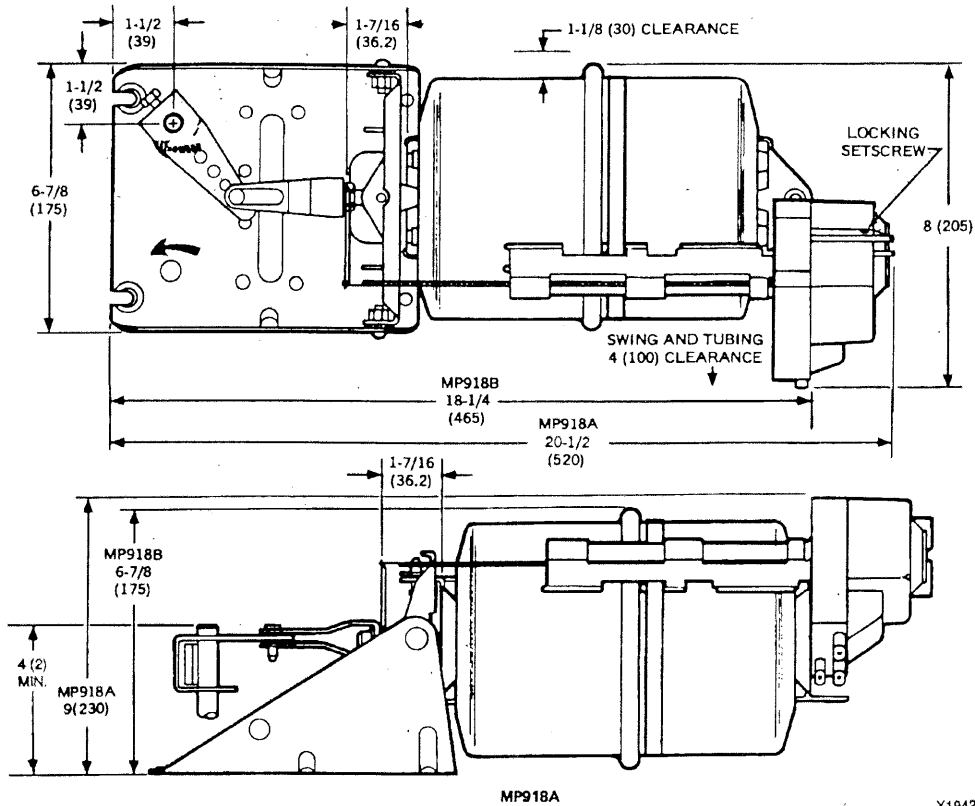

Fig. 4. External Mounting Dimensions in Inches (Millimeters).
1. See Figure 4 for mounting dimensions.